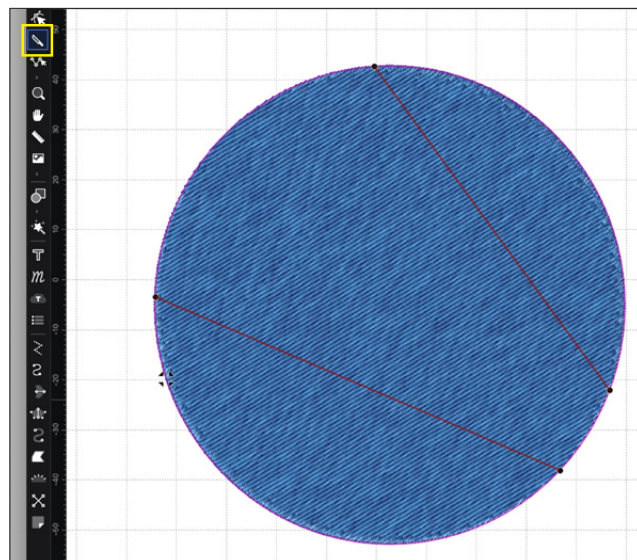

Figure 71
- Next, click on the Slice tool, and click on one of the edges of the shape and drag the line to the other edge in the area where you wish to trim your shape. **See Figure 71.**